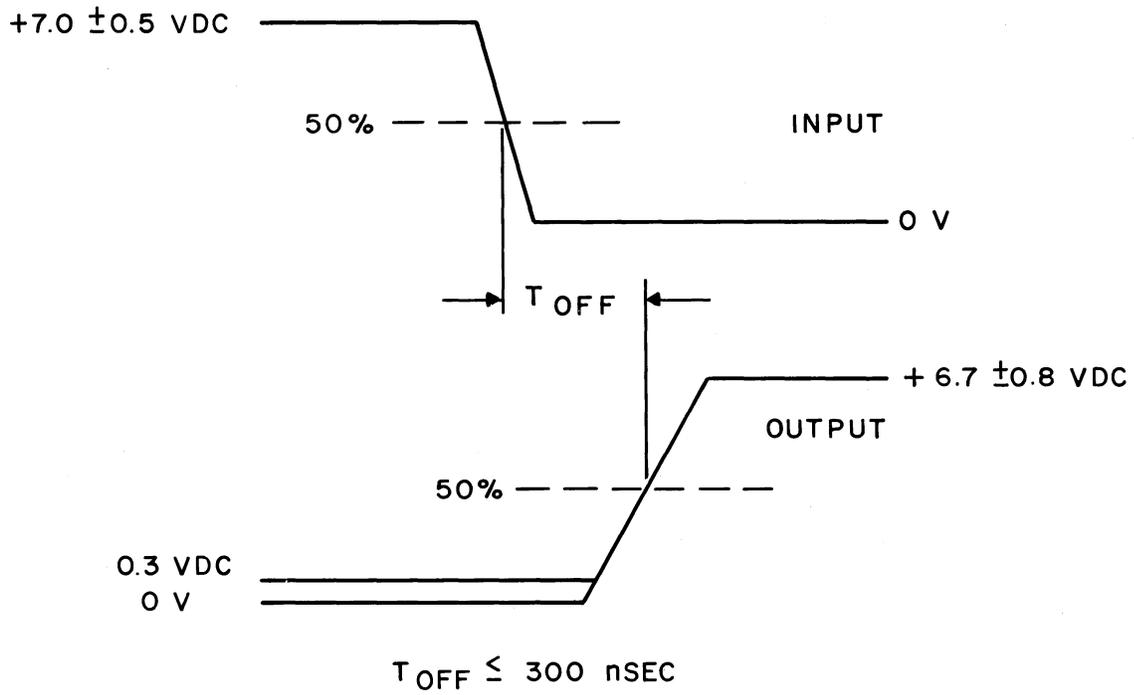

Fig. 3 - (NOR Gate Test)
- (1) Set the DPDT switch to position 2.
- (2) Set the EXT SYNC TRIGGER to (-) negative.
- (3) Rotate the GATE selector through positions 1 to 10. The input and output steps shall be as specified in Fig. 3 at each position.